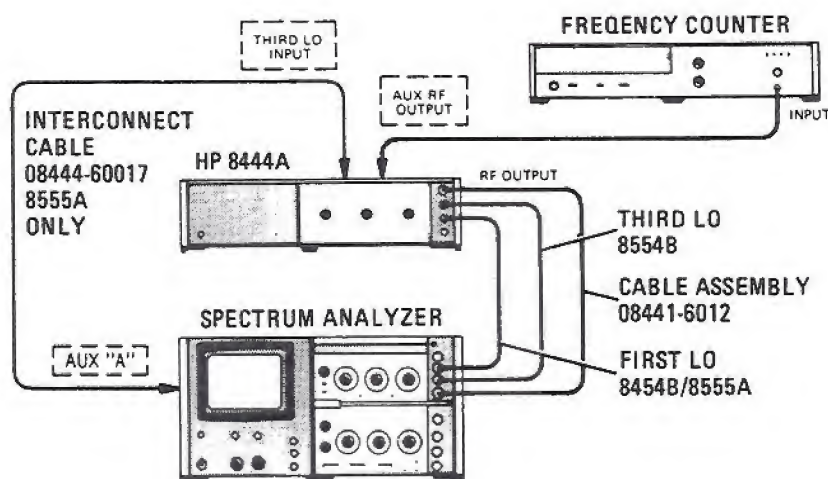

Figure 4-4. System Flatness Test Setup
2. Connect test setup as shown in Figure 4-4 and set controls as follows: